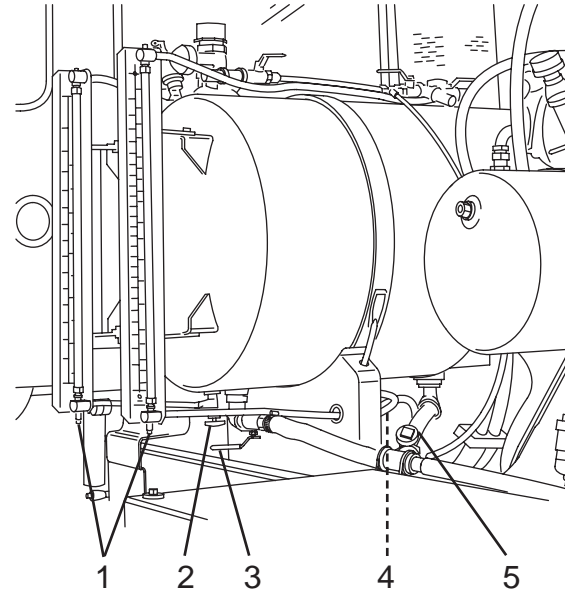

Figure 70
2. Remove the water tank drain plug(s), or open the main tank (Figure 70, Item 5) and chemical tank (if equipped) drain valves (Figure 70, Item 3).
3. Open the main tank (Figure 70, Item 4) and chemical (if equipped) sight glass isolator valves (Figure 70, Item 2).
4. Open the sight glass drain valves (Figure 70, Item 1).